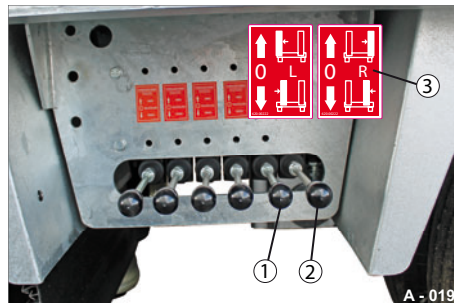

Fig. 25 Controls
- Press the lever (Fig. 25/1 & Fig. 25/2) upwards or downwards in order to approach the desired position of the ramps.